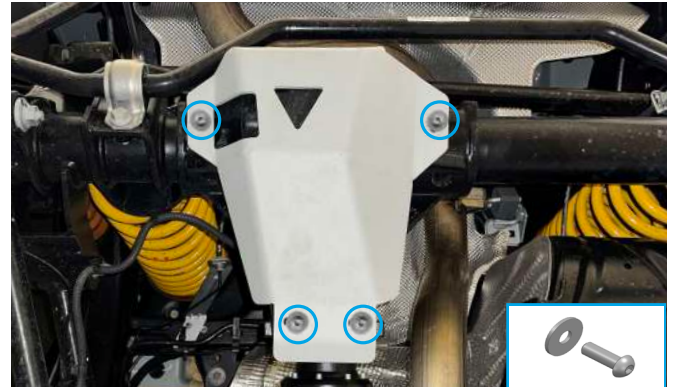

Fig. 2
2. Install the differential skid plate (item 1) and secure it using M10x25 button head bolts and M10 flat washers 10 (items A, B) as shown in Fig.2